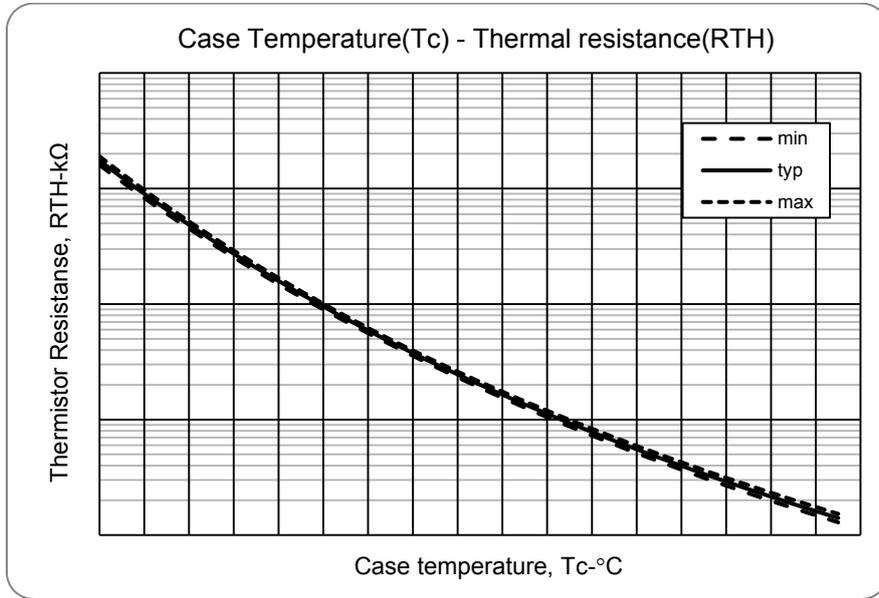
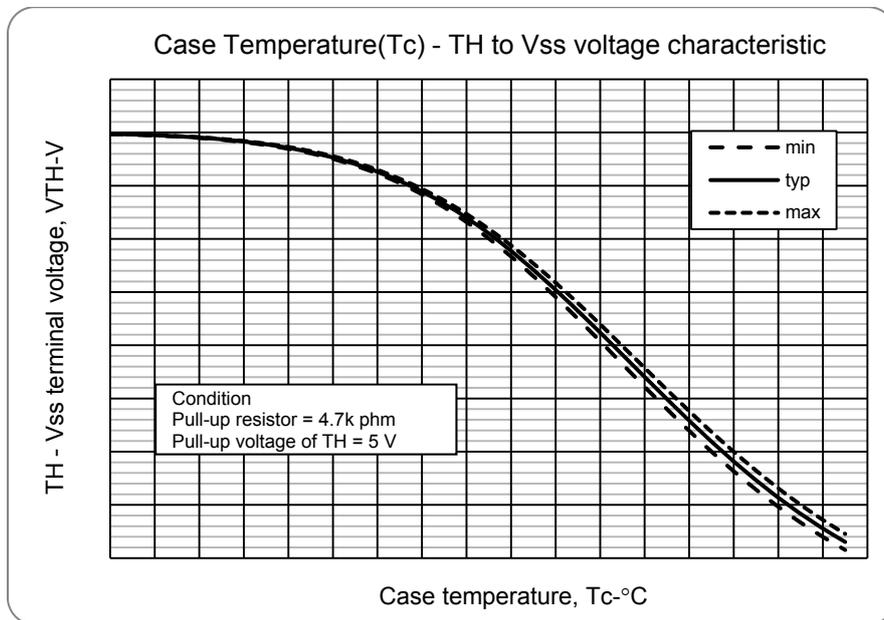

Fig. 10 Variation of thermistor resistance with temperature
Fig. 11 Variation of temperature sense voltage with thermistor temperature
- Inside the IPM, a thermistor used as the temperature monitor for internal substrate is connected between V_{SS} terminal and TH terminal, therefore, an external pull up resistor connected between the TH terminal and an external power supply should be used. The temperature monitor example application is as follows, please refer the Fig.10, and Fig.11 below.